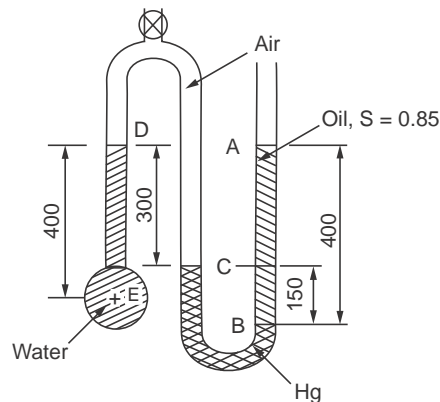

Figure P. 2.11
**Problem 2.11.** A compound manometer is used to measure the pressure in a pipe  $E$  carrying water. The dimensions are shown in Figure P.2.11. Determine the pressure in the pipe.